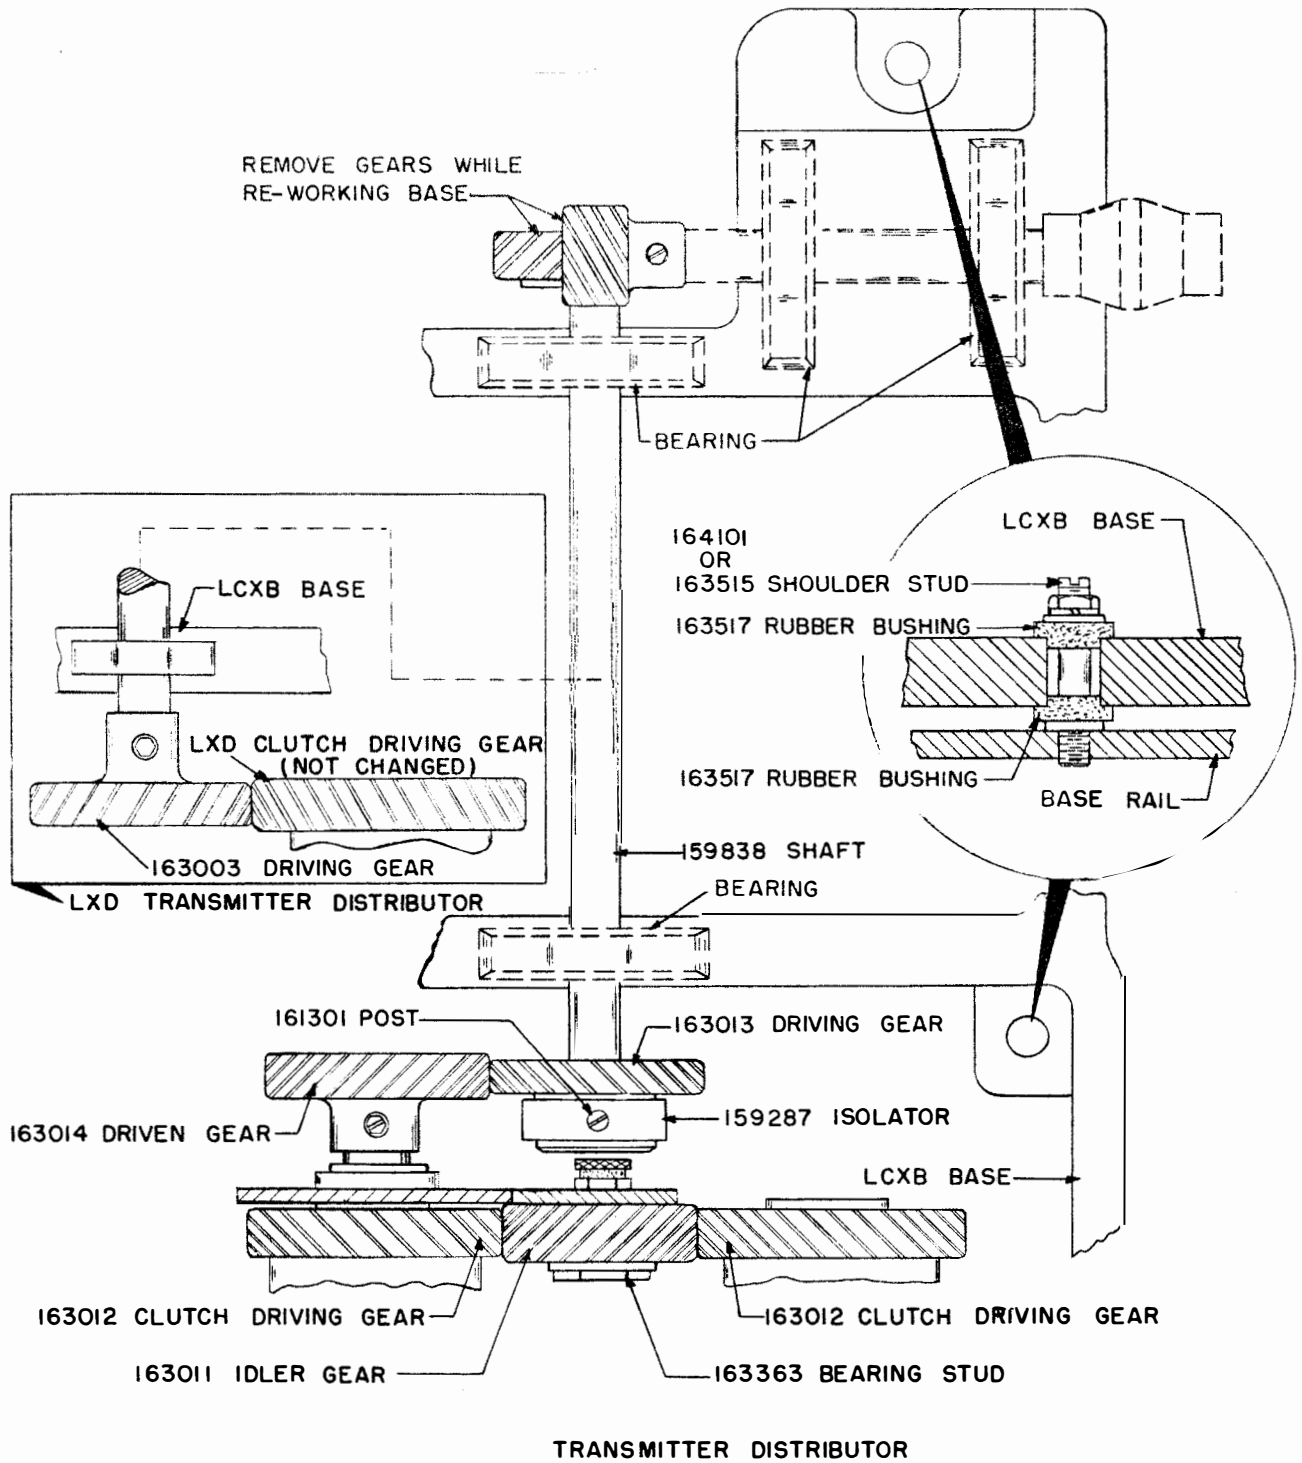

FIGURE 1
(b) LBXD Reassembly -- See attached Figure 1.
LBXD only. See attached Figure 1.
2. Isolation set of parts 164100, on sets equipped with LXD only. See Figure 1.